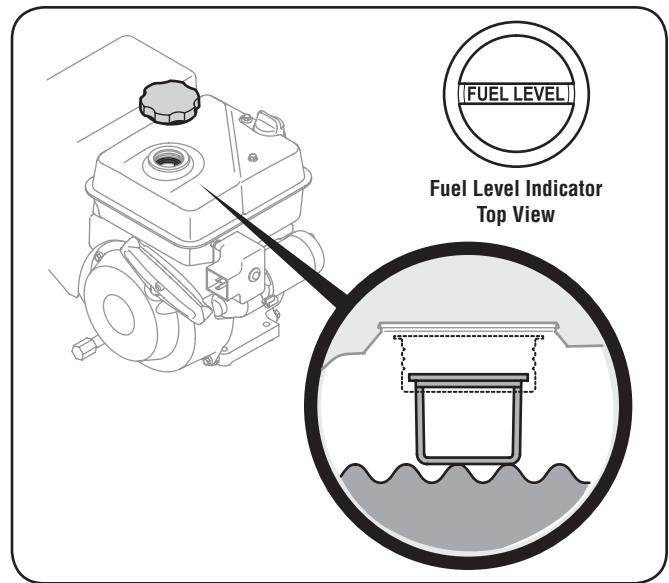

Figure 3-4
**NOTE:** On tanks with a fuel level indicator, fill the tank until the fuel reaches the "fuel full" indicator mark. See Fig. 3-4. All other tanks, fill tank until the fuel reaches a ½ inch below the bottom of the filler neck to allow space for fuel expansion. Be careful not to overfill.